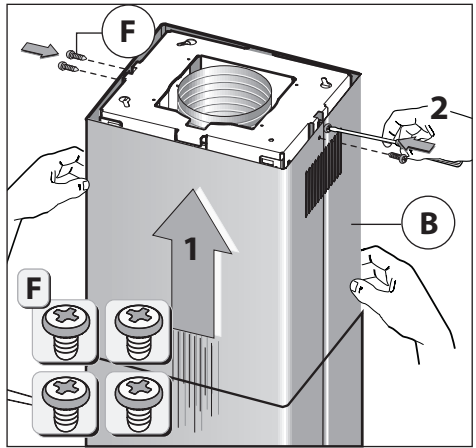

Fig.13
- Fix the upper chimney **B** to the structure with the 4 screws **F** (fig.13).
-If necessary, fix the lower duct to the hood from the inside, using the screws **P** (Fig.13). Re-locate the filters in their seat.